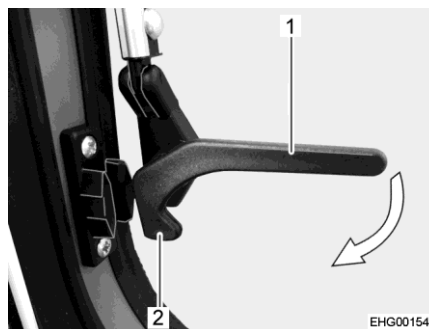

Fig. 50 Catch lever, on the side ("open" position)
- Turn the catch levers on the side (Fig. 50,1) a quarter turn towards the window frame until the locking catch (Fig. 50,2) engages.